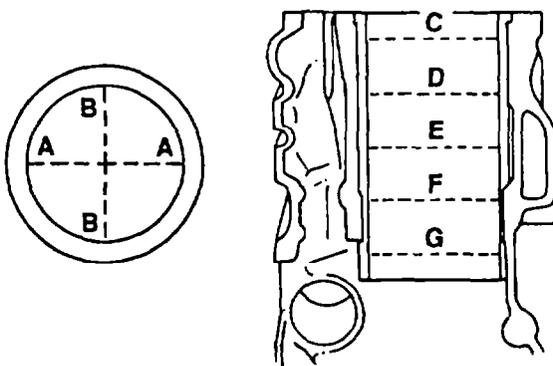

Figure 20— Measuring Cylinder Liner Out-of-Round
- t. Measure and note the cylinder liner out-of-round using a suitable inside micrometer or bore gauge at points C,D,E,F and G refer to Fig. 20, measure each point in two places 90° apart (A — A and B — B). The maximum allowable out-of-round is 0.08 mm (0.003 in.) at point C, and 0.005 mm (0.002 in.) at points D,E,F and G. Replace the cylinder liner as necessary (refer to para. 12).